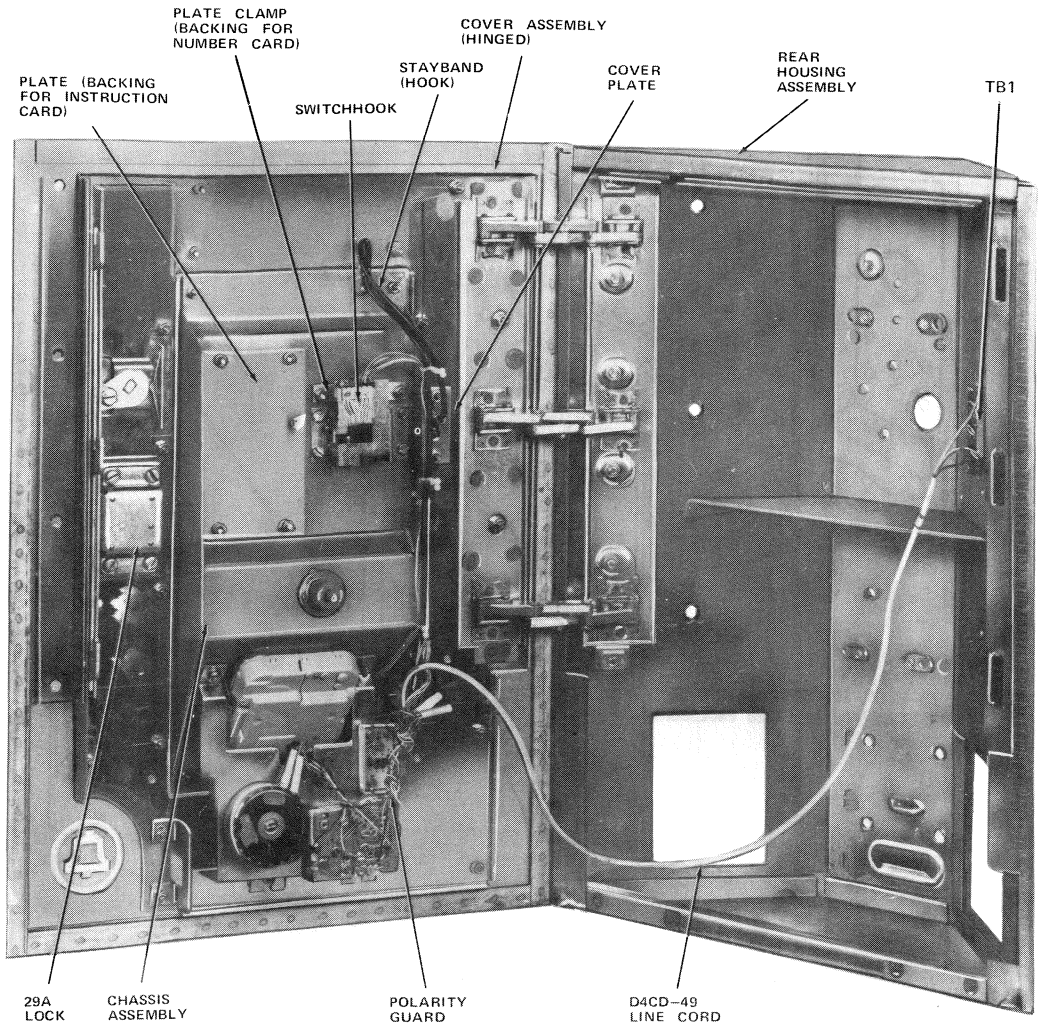

Fig. 5—20A Coinless Telephone Set With Cover Assembly Opened
2.12 Each set consists of a rear housing assembly and a hinged cover assembly (Fig. 5). The cover assembly includes a brushed stainless steel
3.10 Run inside wire through one of the large holes in the rear of the housing and terminate on TB1 per Fig. 5 and 17.